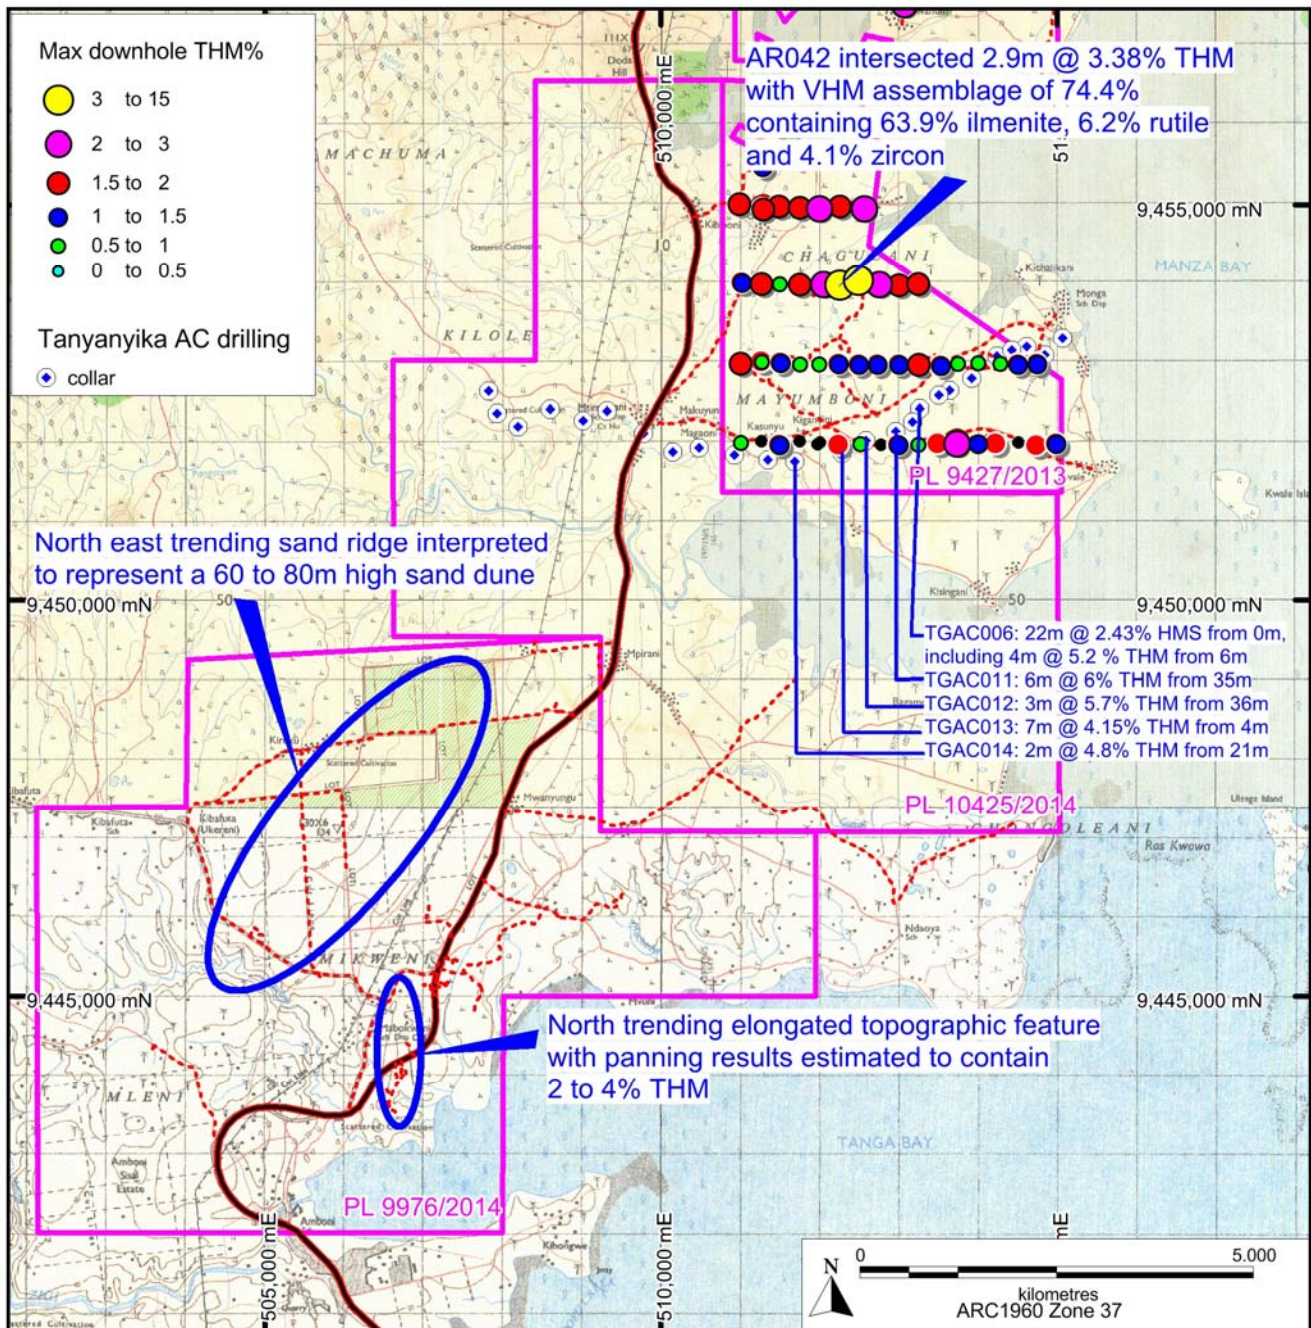

Figure 2. Location Map showing a portion of the Company's Northern Project (Kitambula) showing drill targets based on historical and recent reconnaissance work.
The site of recent shallow auger drilling which included hole AR042 which intersected 2.9m @ 3.38% Total Heavy Mineral (THM) from surface until the end of hole was examined (see Figure 2). The surface site examination revealed enrichment of HMS in the drainages and sands eroding from the site with a pan sample of the soil estimated to contain 3 to 4% HMS mineralisation which confirms the laboratory assay of 3.38% HMS encountered in the drill hole. The surrounding auger holes also contained shallow intervals of 1 to 2% THM with auger drill spacing 200 to 250m along lines and 1000m between the lines. One drill fence of historic air core (AC) drilling located approximately 1.5km to the south east have results that include:
The recently granted tenement of PL 9976/2014, which represents southern-most tenement in the Kitambula package was evaluated for strandline and dunal styles of HMS mineralisation (see Figure 2).